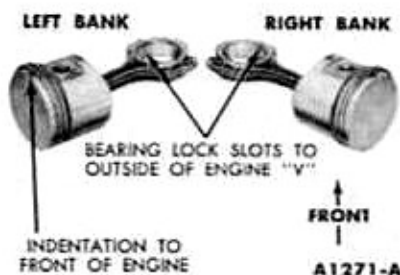

FIG. 30—Connecting Rod and Piston Assembly
2. Position the connecting rod in the piston and push the pin into place. Assemble the piston and connecting rod so that the bearing lock slots will be to the outside of the engine "V" (Fig. 30).